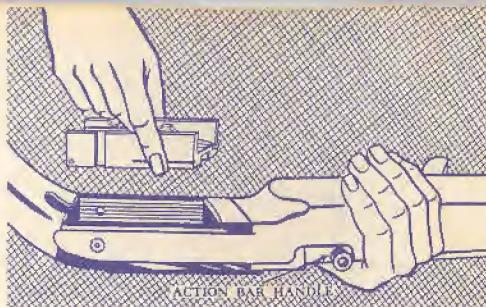

Figure 6
**BOLT ASSEMBLY:** With gun upside down, drop bolt (as shown in figure 6.) into receiver, work retracting handle back and forth, breech bolt will drop into place, at top of receiver. Bolt is now assembled in receiver.